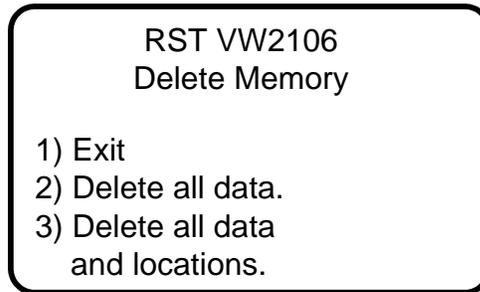

FIGURE 5-9 DELETE OPTIONS
4. Scroll to the desired delete option (Figure 5-9) using the up/down arrows and press **Enter**.